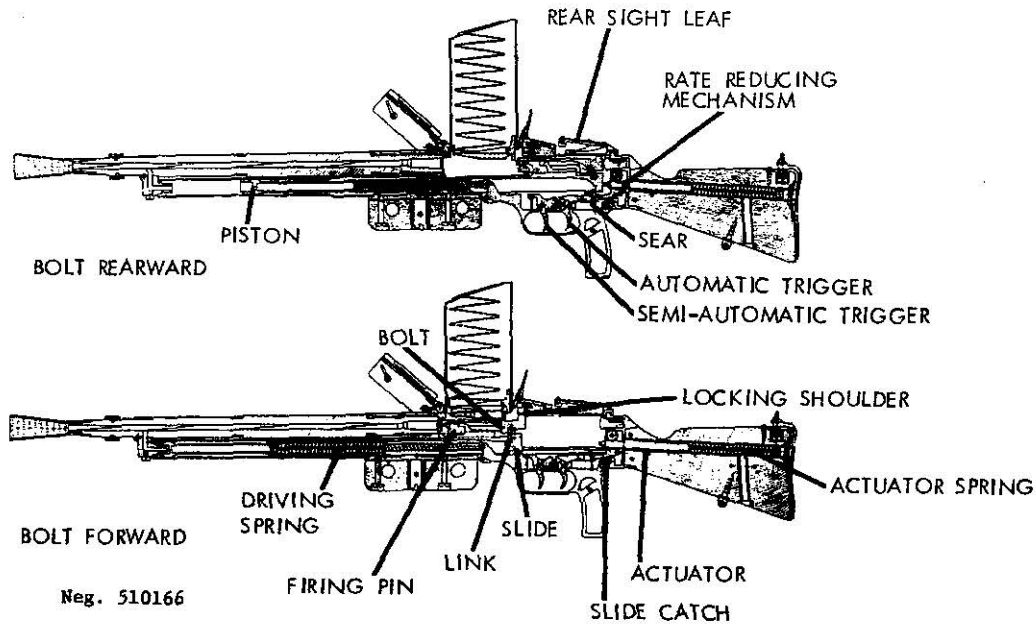

Figure 167. M24/29 section.
b. The feed ribs on the top of the bolt force a cartridge from the magazine and drive it into the chamber. The extractor snaps into the groove of the cartridge case, and when the front of the bolt strikes the end of the barrel, the bolt stops its forward movement. The slide continues forward and the links (fig 167) pivot about the pin to force the rear end of the bolt up into its seat in front of the locking shoulder. The slide continues forward
until the firing pin (fig 167) mounted on the slide strikes the primer and fires the cartridge.
c. The propellant gases drive the bullet down the barrel and, after the bullet passes the gas port, some of the gases are diverted into the recessed head of the piston (fig 167). These gases drive the piston and slide to the rear, compressing the driving spring and retracting the firing pin. After a short free travel, the link pin on the bolt and the links rotate and pull the bolt down out of engagement with the locking shoulder. The extractor withdraws the fired cartridge case from the chamber and holds it against the bolt until the end of the ejector strikes the case and expels it from the gun.
h. The butt of the M24/29 light machinegun has a simple rate reducing mechanism. When the slide recoils, it drives the actuator (fig 167) to the rear against its spring. At the same time the slide catch engages the slide and holds it to the rear until the actuator is driven forward. When the heavy actuator reaches the end of its return stroke, it depresses the slide catch to release the slide. The time lag caused by the movement of the actuator results in a reduced cyclic rate of fire.